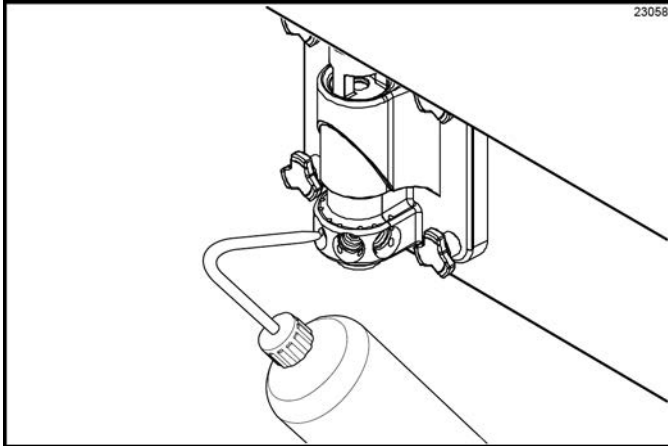

Figure 6-76
- Fill the squeeze bottle with sanitizing solution. With a pail beneath the door, insert the tube end of the squeeze bottle into the syrup port, and squeeze the bottle firmly. This action will force solution out of the adjacent port and down around the spinner. This procedure should be performed for at least 10 seconds per port. (See Figure 6-76.)